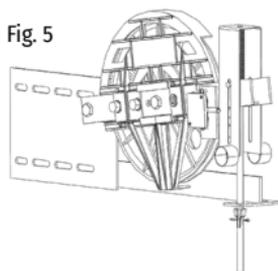

Fig. 5
- 1 pcs Tension Pulley Without Weight Fig 5